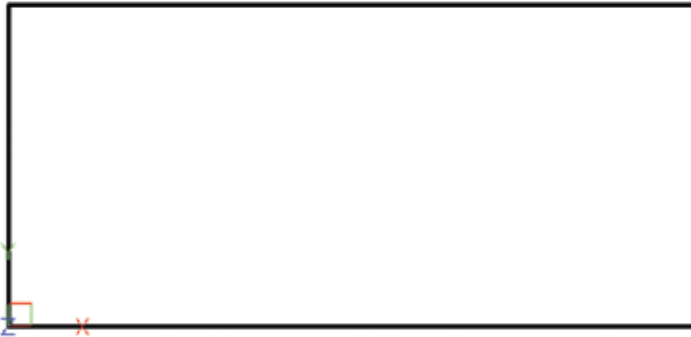

Figure 8.3
- Your drawing should now look like Figure 8.3.